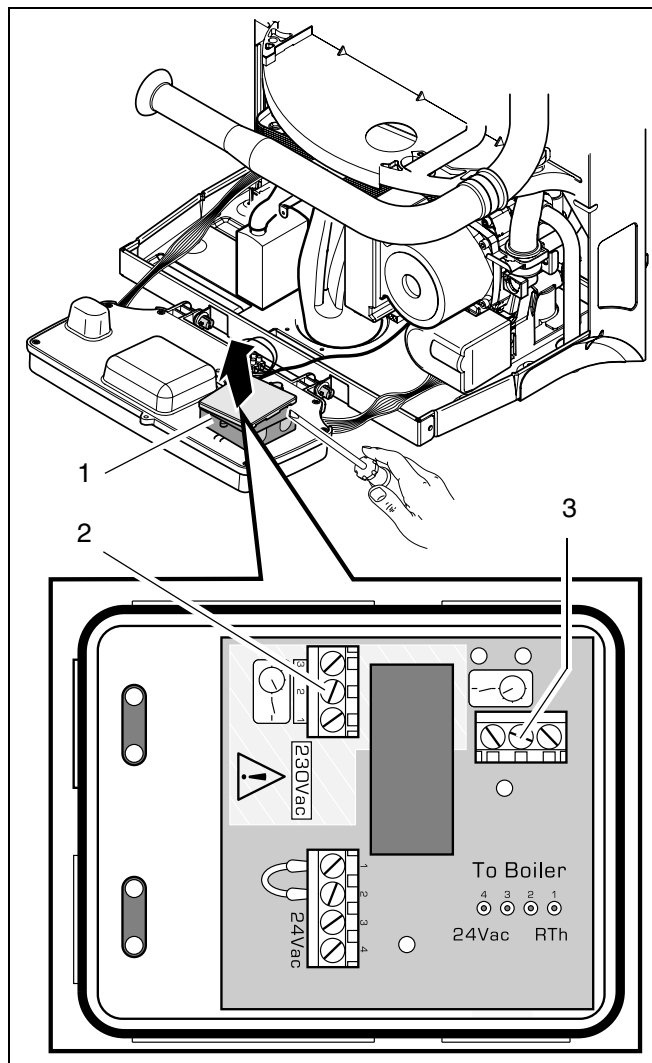

fig. 32 Connection box - 230 Volt and Volt free connection
- Remove the cover of the rth-converter (fig. 32, item 1).
- Connect the switch live to terminal "1" and a neutral to terminal "2" (fig. 32, item 2).
Terminal 3 (fig. 32, item 2) is not used.
- Fix the wire to terminal 1 and 2 of the volt free connection (fig. 32, item 3).